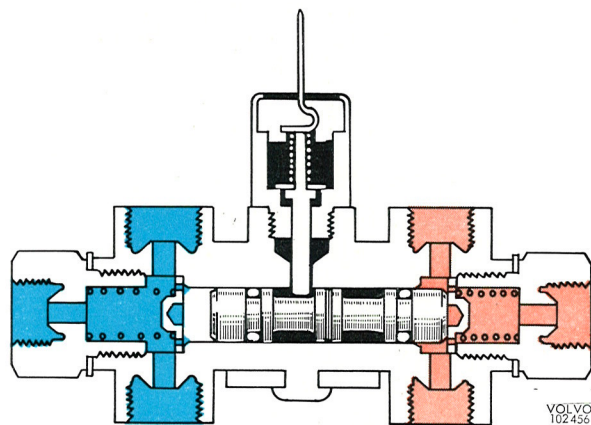

Fig. 5-39. Brake valve, construction
It is only when the pressure in the secondary circuit first exceeds that in the primary circuit by about 10 kg/cm² (142 lb/sq.in.) that the pistons are pushed so far to the right that the guide pin (4) can be pressed downwards. When this happens, the switch washer (2) reaches the housing (3) and current is cut in (Fig. 5-39). If the circuits are made pressureless, the guide pin is prevented from returning to its normal position. This can happen by screwing out the warning switch (3).